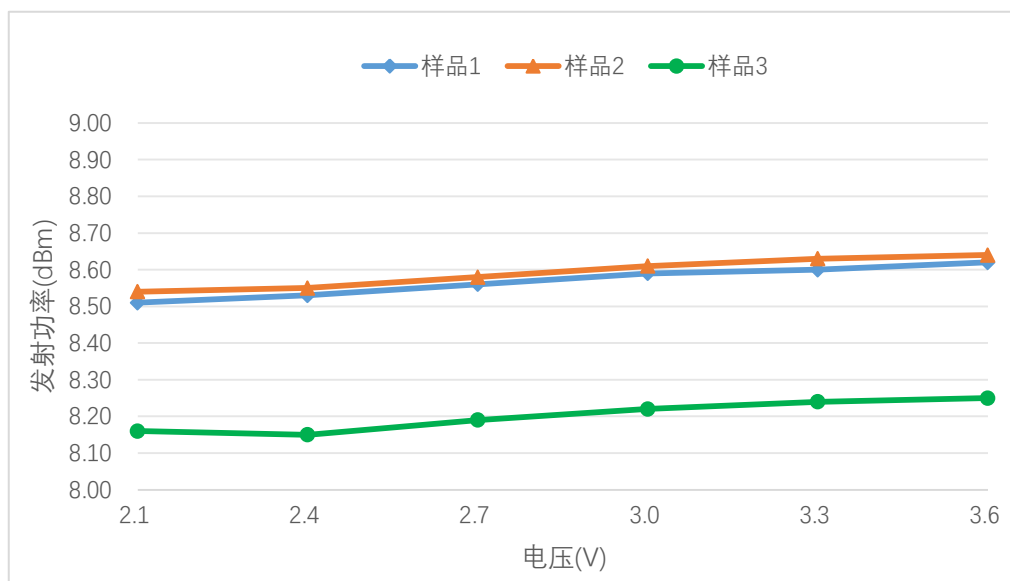
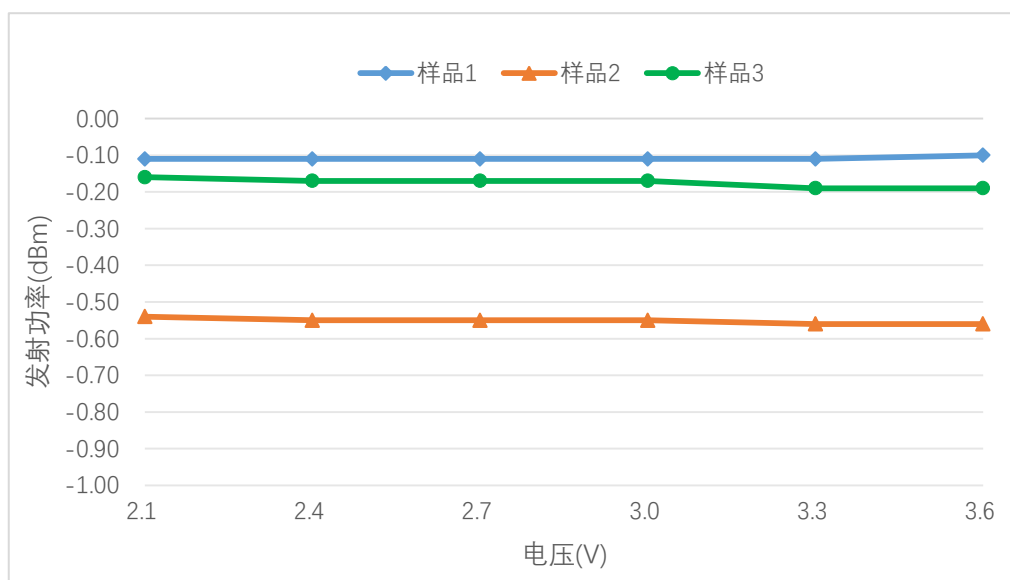

Figure 5.1 Transmit Power vs. Supply Voltage @ Power Configuration 8dBm, 25°C
Figure 5.2 Transmit Power vs. Supply Voltage @ Power Configuration 0dBm, 25°C
- (1) Test conditions for Table 5-1: Temperature 25°C, power supply voltage 3.3V;
- (2) The transmission power of the module under different voltages at 25° C is shown in Figure 5.1 and Figure 5.2.